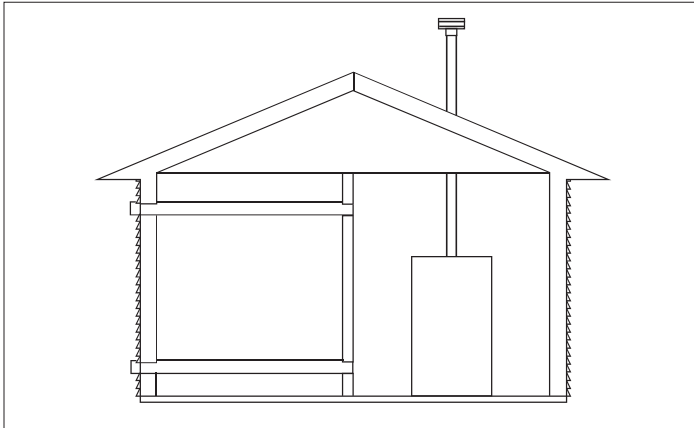

Figure 24 - Combustion Air through Ductwork
2. If combustion and ventilation air is taken from the outdoors using a duct to deliver the air to the mechanical room, each of the two openings should be sized based on a minimum free area of one square inch per 2000 BTU/hr input. See Figure 24.